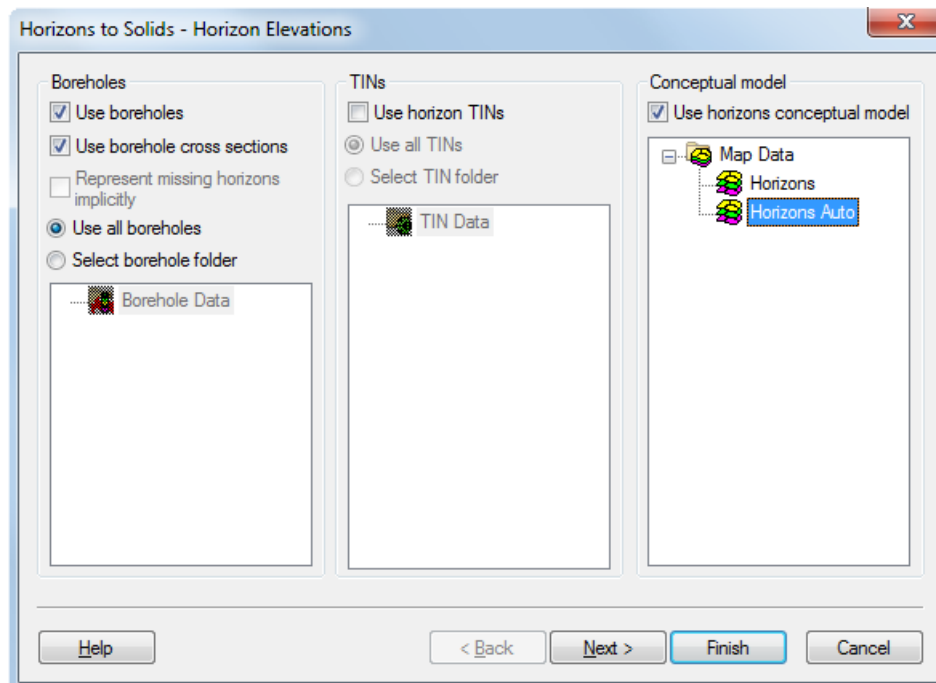

Figure 7. Horizons -> Solids using a horizon conceptual model.
3. Select the options as shown in Figure 7 and click *Finish*.